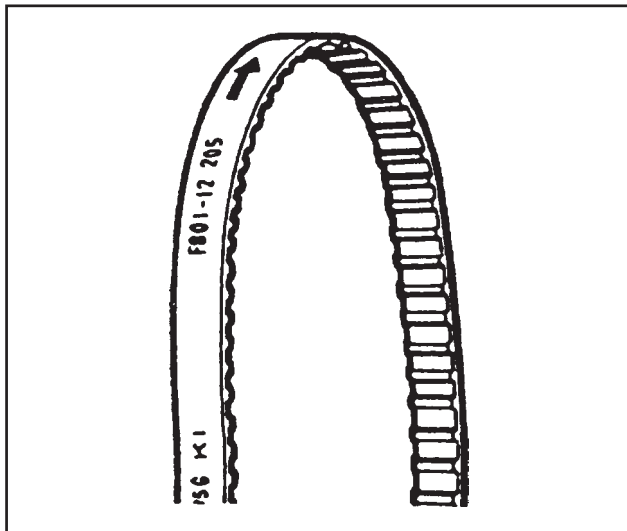

FIGURE 1. TIMING BELT
9. Use chalk to mark the direction of rotation of the timing belt. Remove the timing belt. See FIGURE 1.